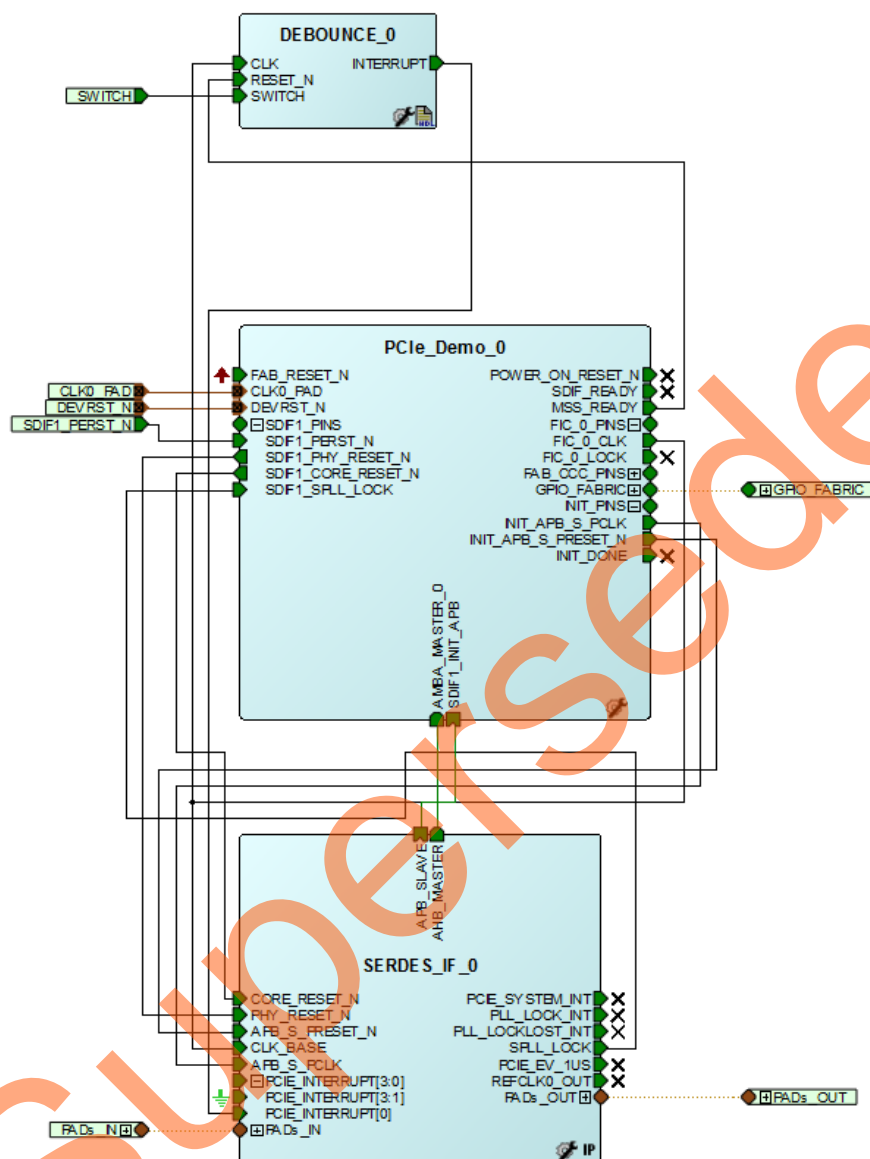

Figure 25 • PCIe Demo Top Design
20. Click **Auto arrange instances** to arrange the instances and click **File > Save**. The PCIe_Demo_top is displayed as shown in Figure 25.